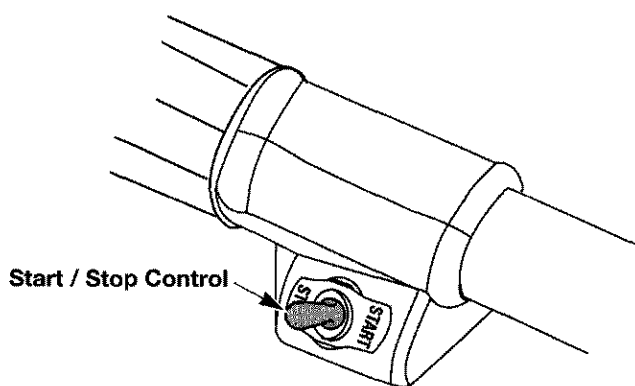

Fig. 5
3. Put the Start/Stop Engine Control in the **START** [I] position (Fig. 5).
2. To stop the engine, put the Start/Stop Engine Control in the **STOP** [O] position (Fig. 5).